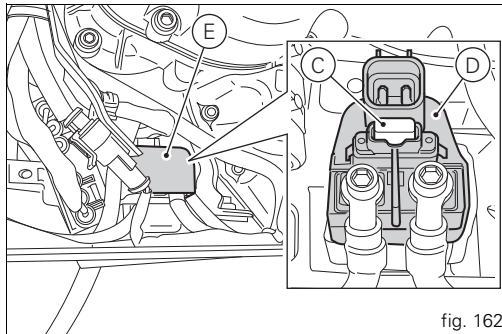

fig. 162
MASTER FUSE, protected by a 30A fuse located on the solenoid starter, behind the battery (C, fig. 162).
The main fuse (C, fig. 162) is positioned next to the battery, on the solenoid starter (D). Remove the fuse cap (E) to reach it.